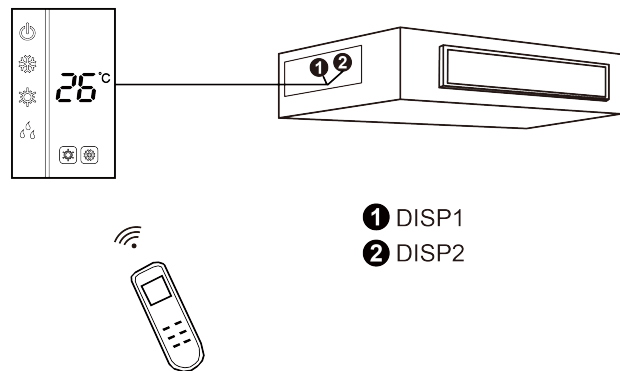

Fig 5.4.2
- 2) Fig 5.4.2 shows the installation of remote controller.